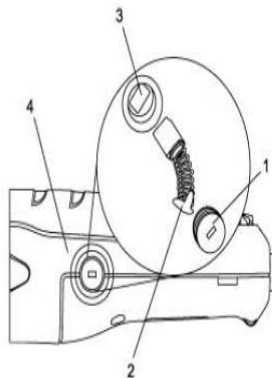

Fig. 11
Use a 1/4" (7 mm) slot screwdriver and remove one brush cap (1) (Fig. 11).